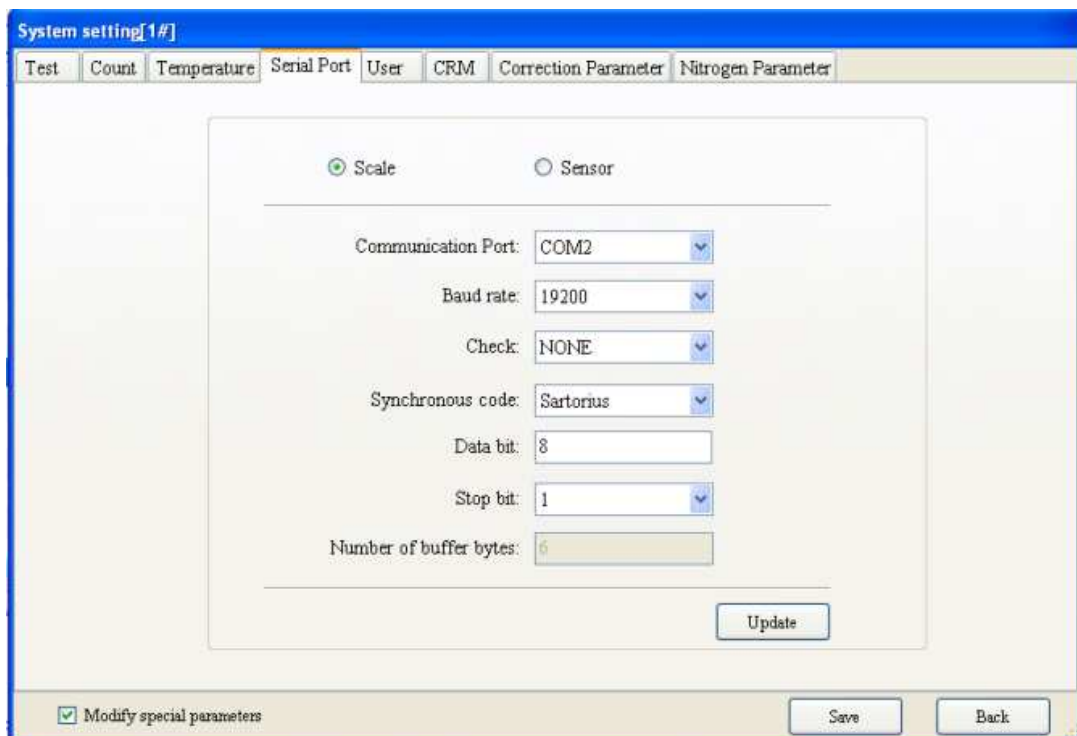

Fig 4-3-5
3. Serial port setting: Click on option tab “Serial Port Setting” of “test setting window”, the window as Fig. 4-3-5 will popup.